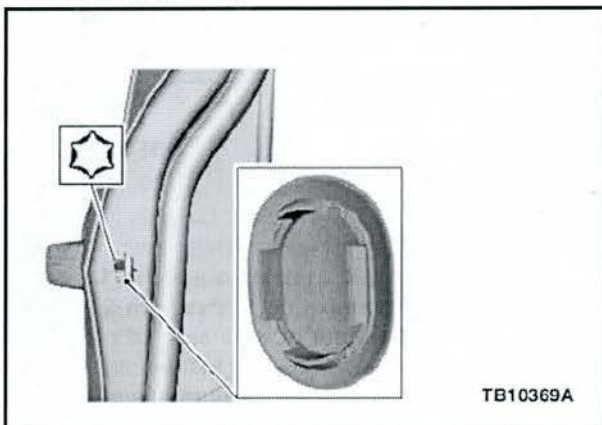

Figure 1 - Article 12-12-12
1. Open the door, remove body plug from door jamb, and loosen the handle reinforcement screw until the exterior door handle bezel pops loose. (Figure 1)